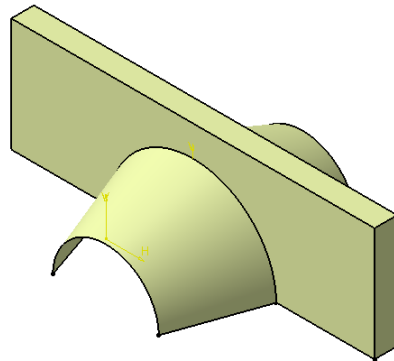

Figure 17-110 Fill surface created
4. Choose the **Join** tool to merge the fill surface with the base surface. The resultant surface is displayed in Figure 17-110.